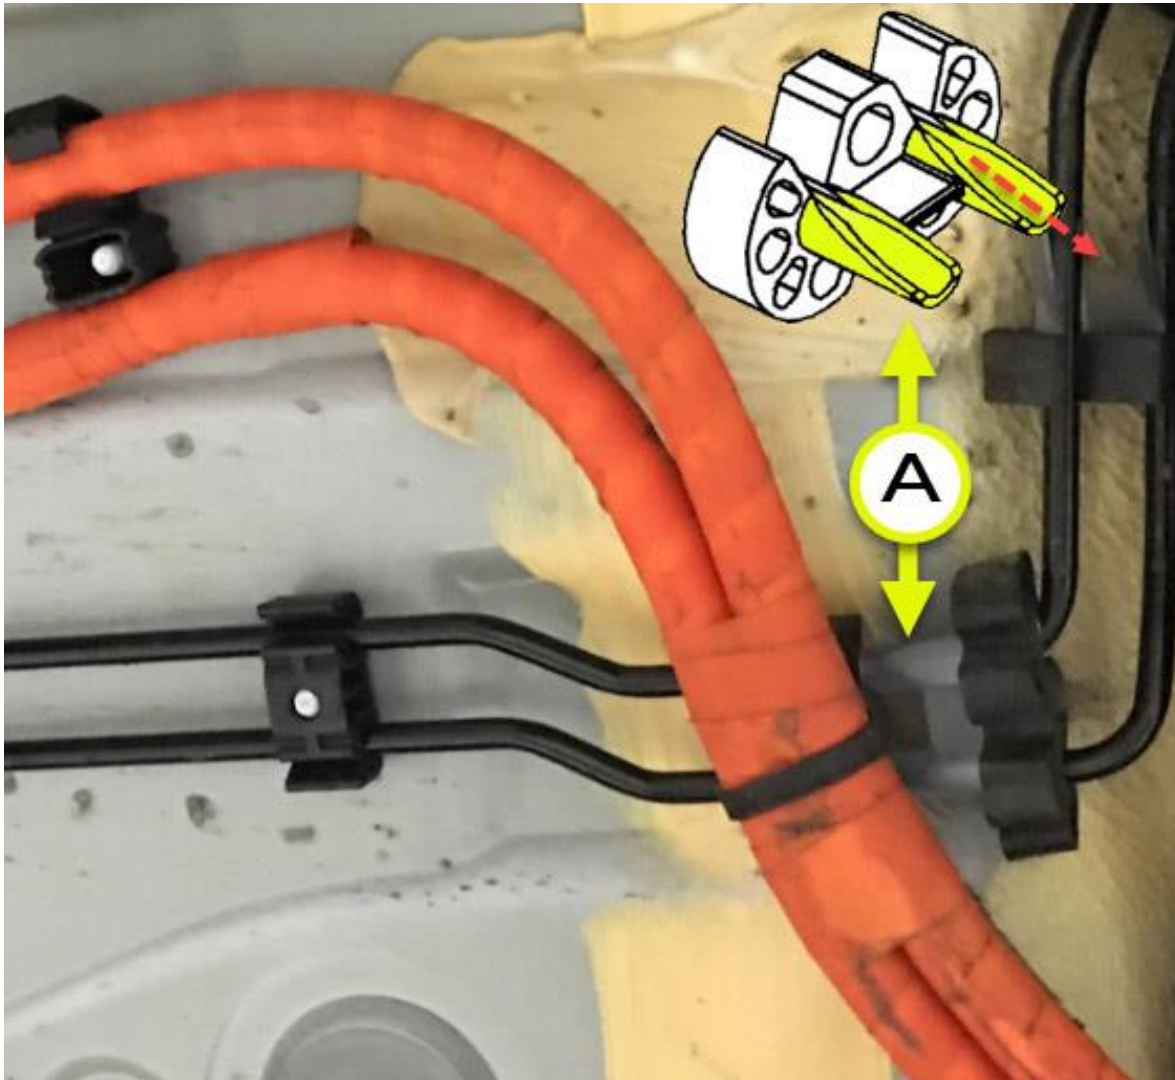

**Figure 2.** Inspect high-voltage cable, in location A, for pinch damage as shown by B.
5. Inspect the high-voltage cable in the area (Figure 2-A).